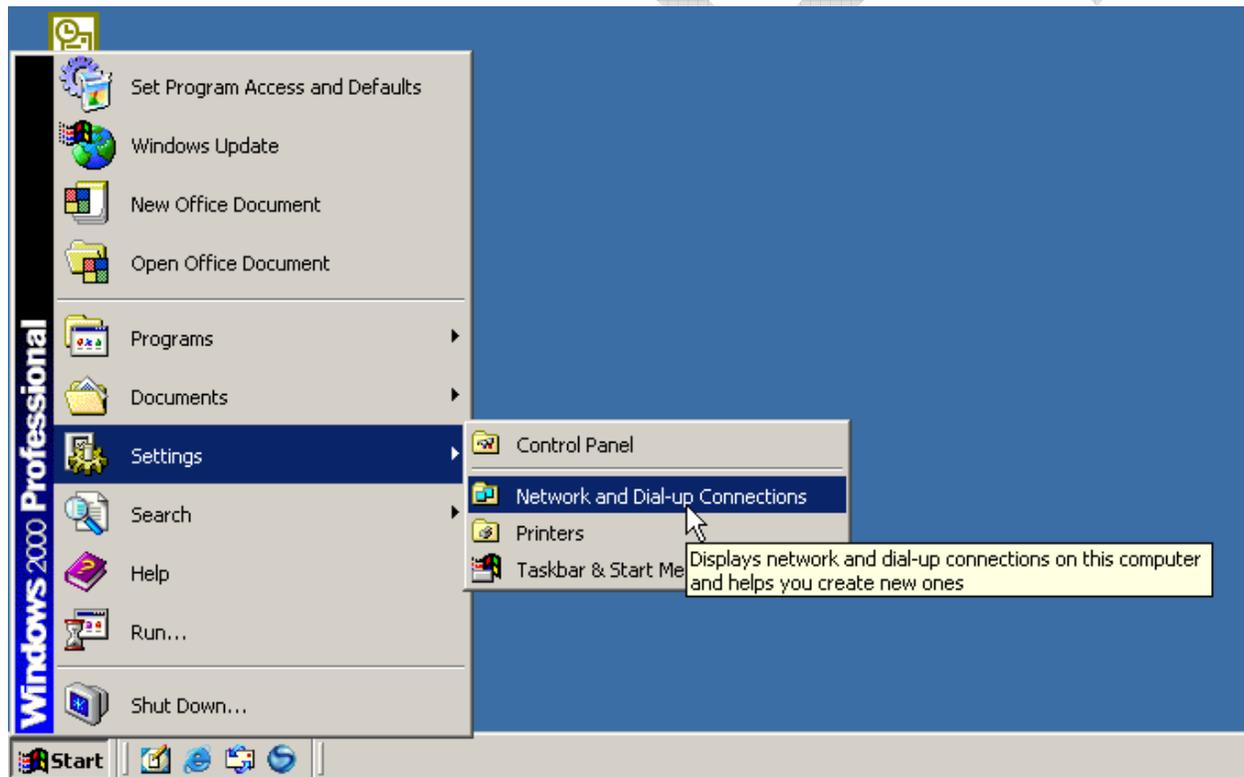

Figure B-1: Network and Dial-up Connections
1. From the desktop, select **Start | Settings | Network and Dial-up-Connections** (Figure B-1).